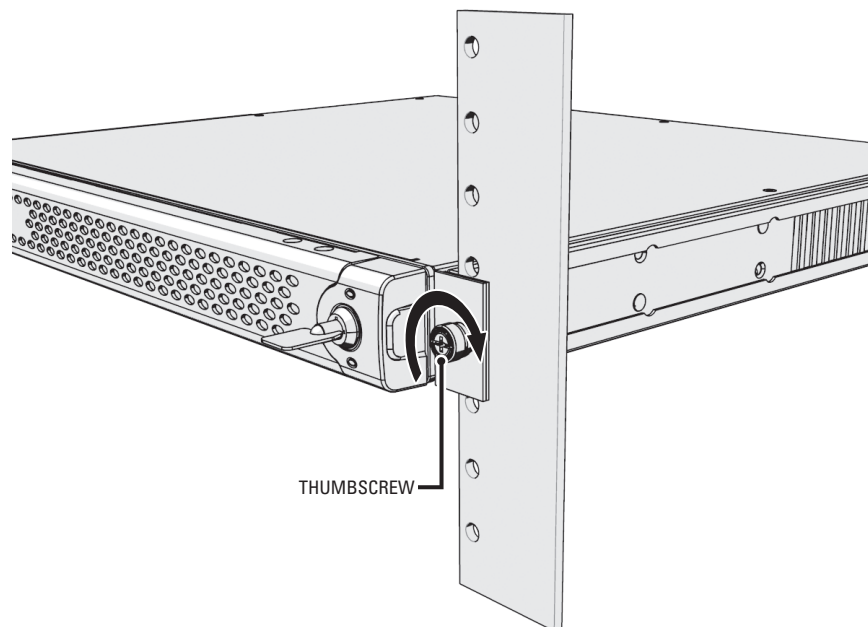

Figure 13. Tightening the Thumbscrews
9. After the unit is in place, tighten the two thumbscrews to secure the unit to the rack (refer to Figure 13).